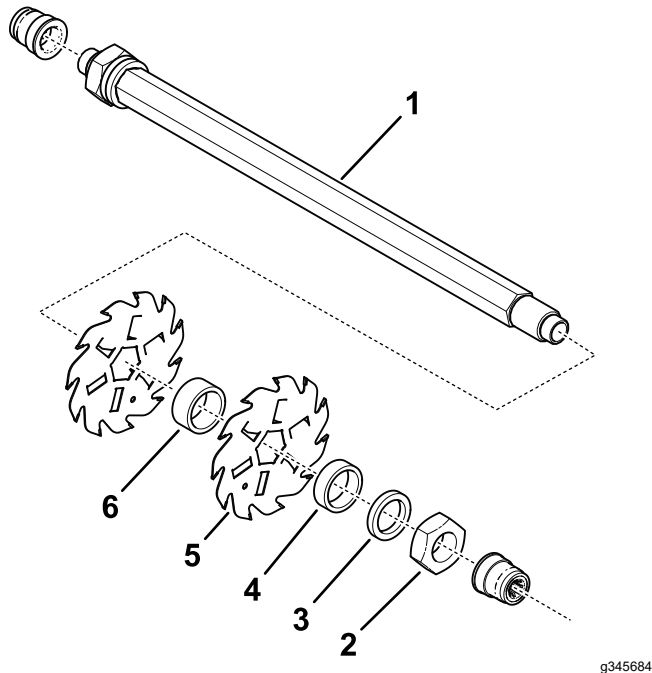
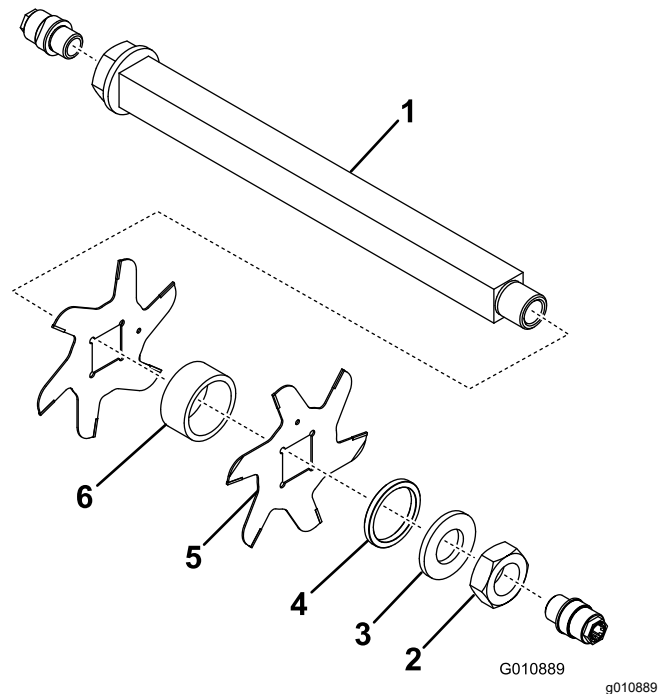

Figure 14
Figure 15
3. Remove the small spacer(s), the washer (Model 03619 only), the blades, and the large spacers. Clean and lubricate the hex or square shaft with a light coating of grease for ease of assembly (Figure 15 or Figure 14).